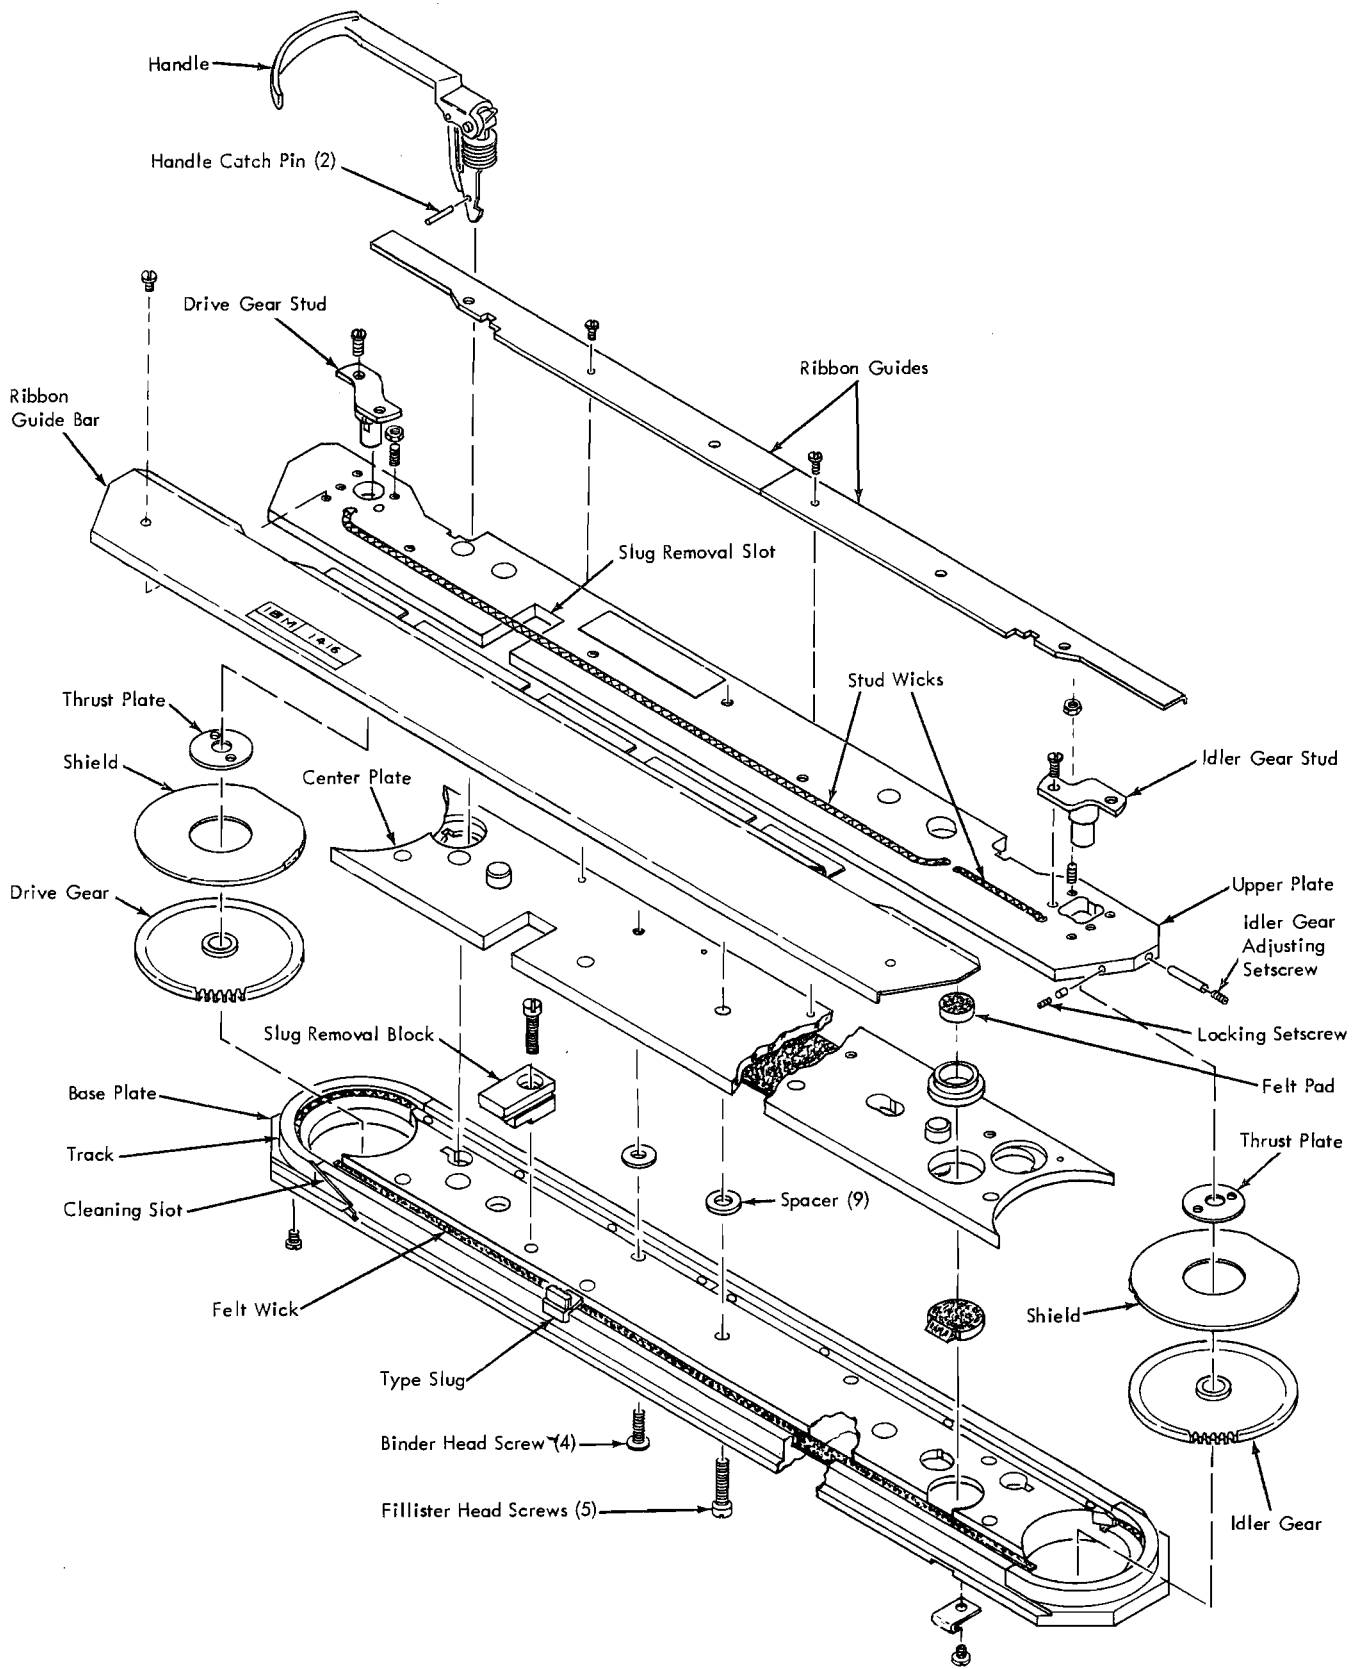

Figure 71. IBM 1416 Train Cartridge
2. Remove the ribbon guide bar (Figure 71).
1. Check the felt pads, Figure 71, to be sure that contact is maintained from the plugs through the wicks in the bottom of the slug clearance slot. Do not overoil. If new felt plugs are installed, apply about 50 to 60 drops of the special lubricant (part 856381) to them.
4. Remove the ribbon guide bar and the left and right ribbon guides. (Refer to Figure 71.)
The accumulated slug-to-slug clearance of the type train should be between .001" and .003". To check this clearance, remove the two ribbon guides (Figure 71) and:
- a. Loosen the locking setscrew for the idler gear adjusting setscrew (Figure 71).